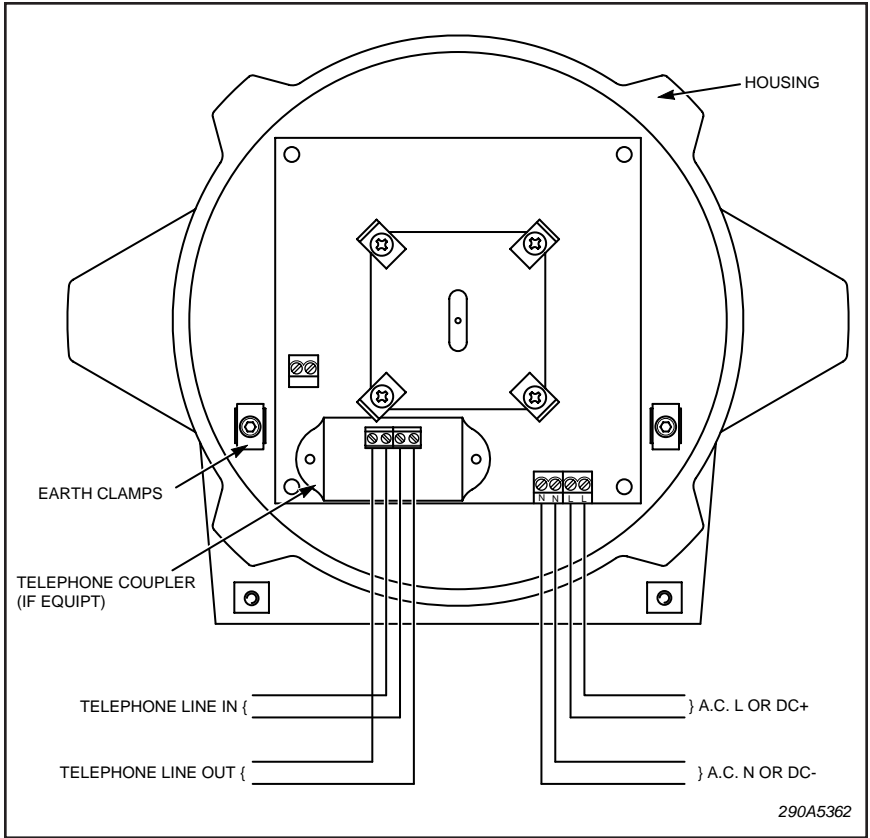

Figure 1.
- e. A four-pole screw terminal block is provided for field wiring. See figure 1 for wiring diagram. These terminals are rated for the following wire ranges: 22-12 AWG (0.5 - 4 mm2). Terminal tightening torque is 0.5 Nm.